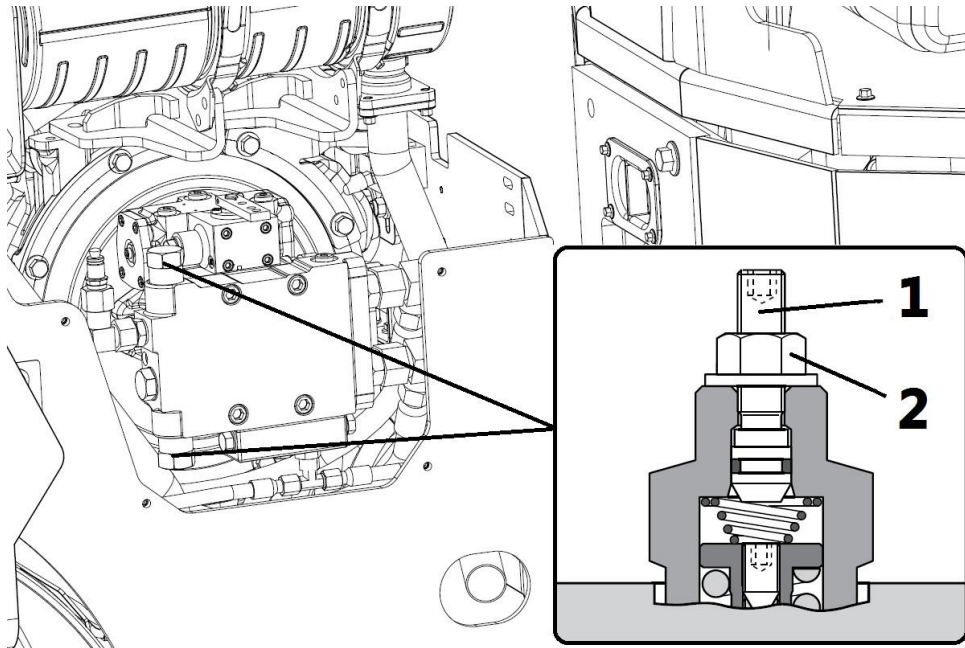

Fig. 6-9: Bypass Multi-functional Valve
1. Rotate the nut (see 2 in Fig. 6-9) on the multi-functional valve anticlockwise;
2. Rotate socket head bolts (see 1 in Fig. 6-9) anticlockwise and unscrew it as far as possible;
3. Tighten the nut (see 2 in Fig. 6-9) on multi-functional valve clockwise;